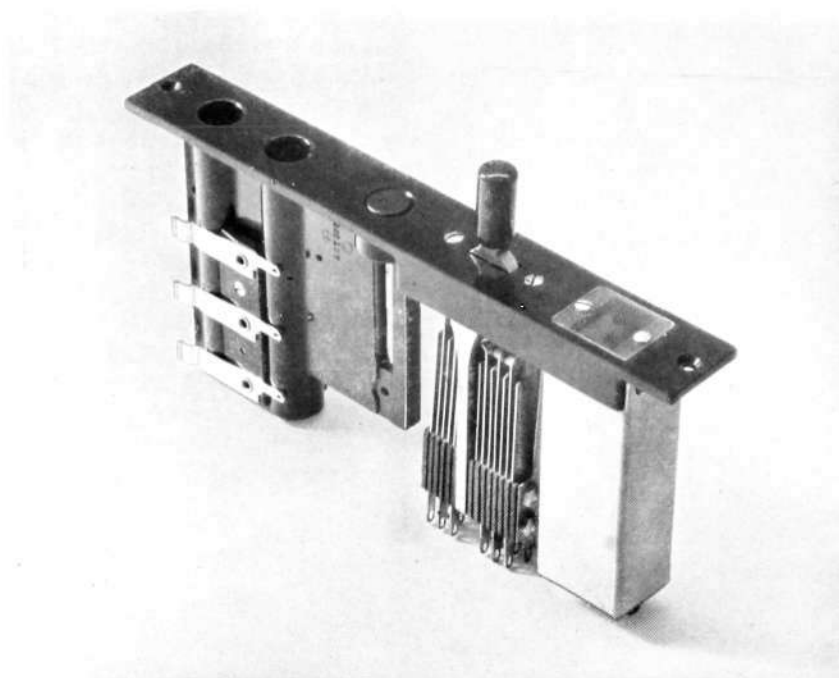

Fig. 6
The equipment for a cord circuit has been combined in one unit, called the cord circuit strip, Fig. 6. The frame of the cord circuit strip is moulded of bakelite and space is provided for the following devices, counting from the front:
- 1 lamp (not shown on Fig. 6)